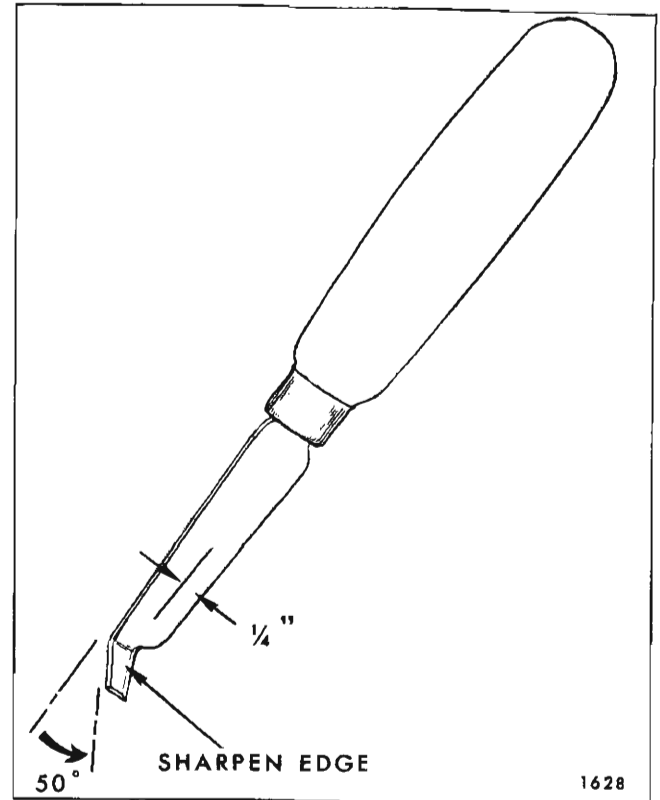

Fig. 1J4—Fabric Cover Trimming Knife
l. Cement fabric cover to rear compartment front and shelf below back window opening. Be certain dielectric seams are straight. (See View "A" Fig. 1J1).
8. Using hammer and flat end punch install drive nails at windshield and back window openings. (View "E", Fig. 1J1 shows typical drive nail installation).
NOTE: Install fabric cover at windshield pillar area in same manner as original installation. (See View "A", Fig. 1J1).
11. Using fabric cover trimming tool (J-21092), or suitable small knife, trim fabric cover just under lip of roof drip molding. (View "C", Fig. 1J1). A tool may be fabricated to trim material along side roof rail moldings as illustrated in Figure 1J4.
flange. (See View "C", Fig. 1J1). Use fibre or wood block with slight concave end to push retainer downward. **DO NOT DAMAGE RETAINER.**